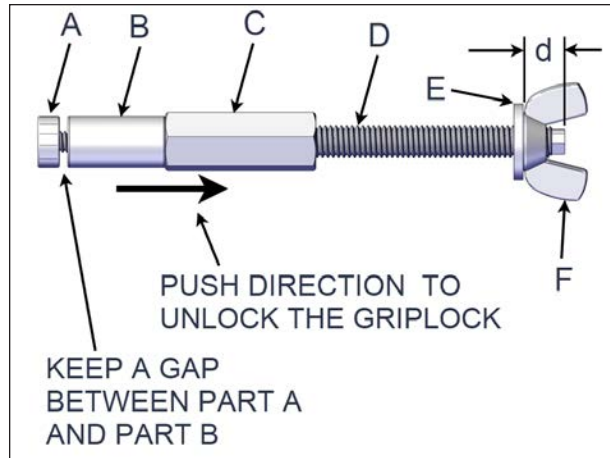

FIGURE 58: GRIPLOCK DEVICE
1. Install the Griplock completely into the hexagonal coupling nut, see Figure 58.
4. Ensure that the washer and the wing nut are mounted at the minimum distance of $d=1/2"$, see Figure 58.
5. Keep a gap between part A and part B as shown in Figure 58
6. Push on the Griplock nut according to the specified direction to unlock the mechanism, see Figure 58.
If the Griplock assembly does not fit easily, it must be because the Griplock nut ("A" in Figure 58) has not been loosened enough.